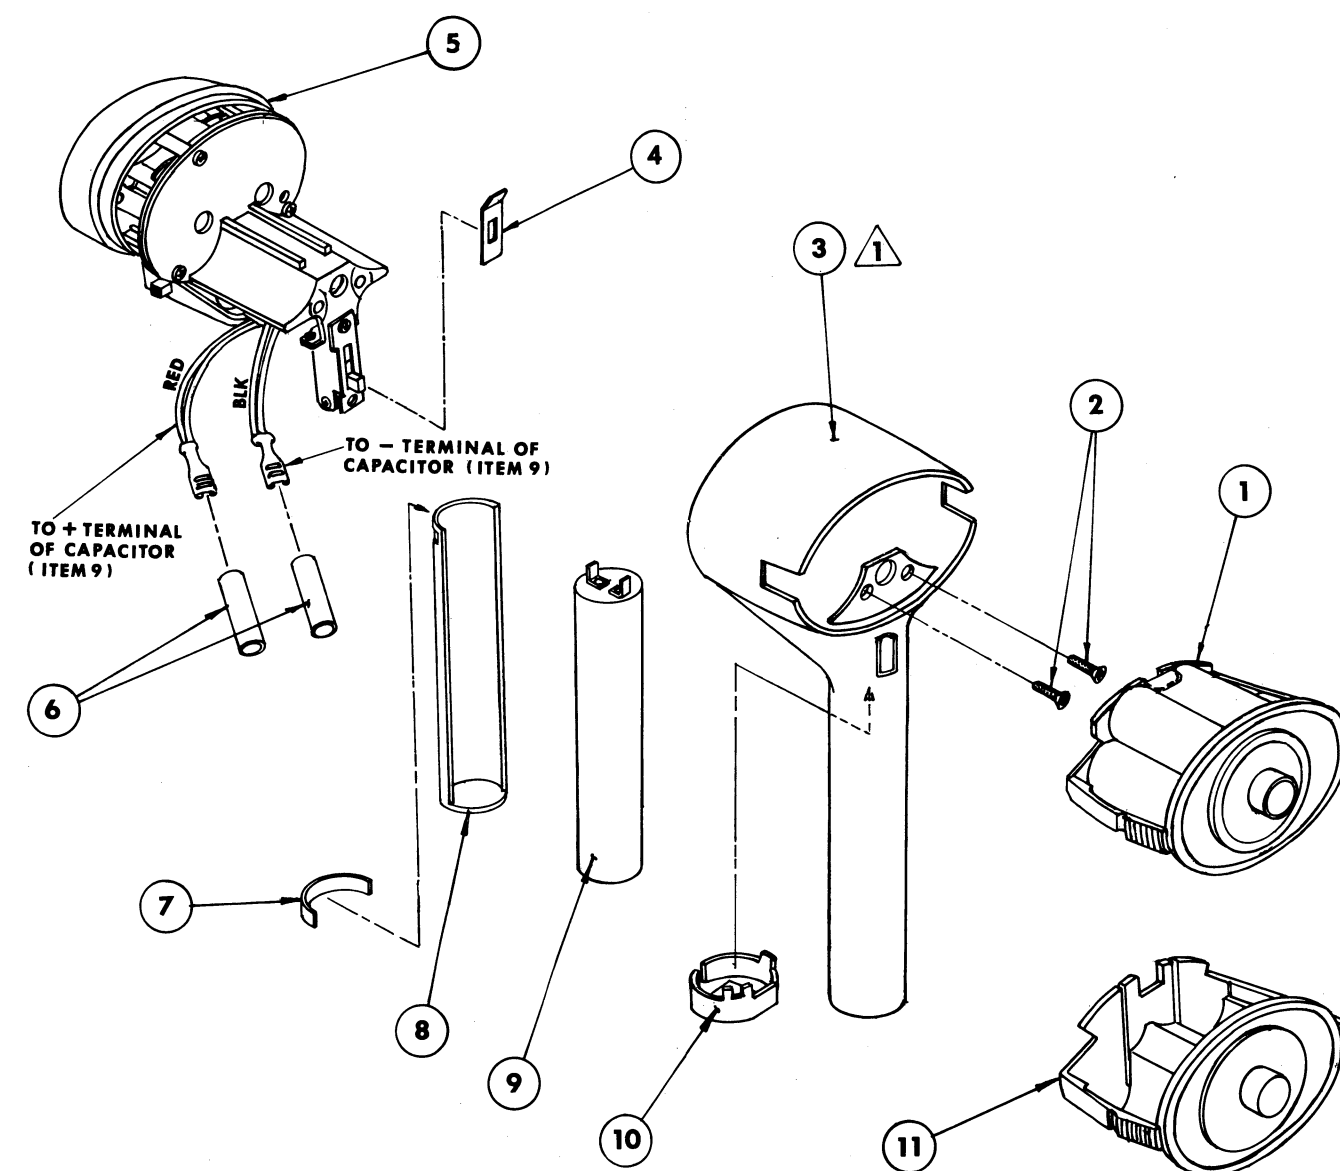

Figure 5-3.
- d. Continue disassembly as required. See Figures 5-3 through 5-12.